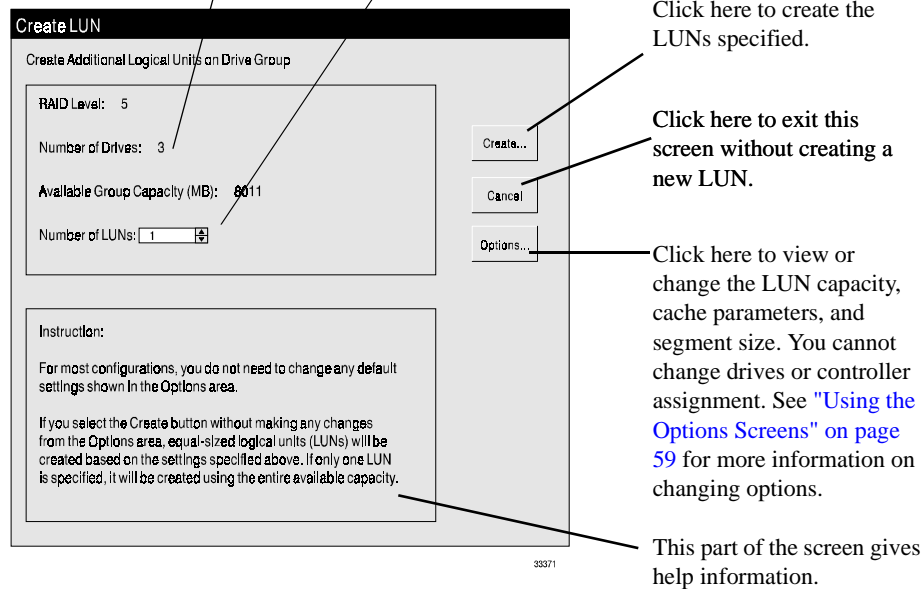

Figure 22. Create LUN Main Screen (Existing Drive Group)
3. Select the Drive Group in the Module directory tree and click on the Create LUN button. A screen like Figure 22 on page 58 is displayed.